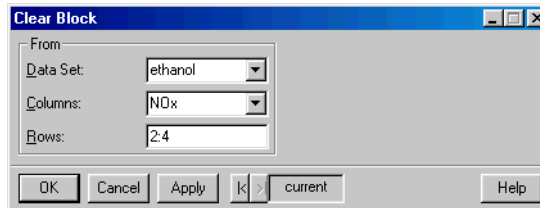

Figure 2.25: The **Clear Block** dialog.
- From the main menu, choose **Data ► Clear ► Block**. The **Clear Block** dialog opens, as shown in Figure 2.25.